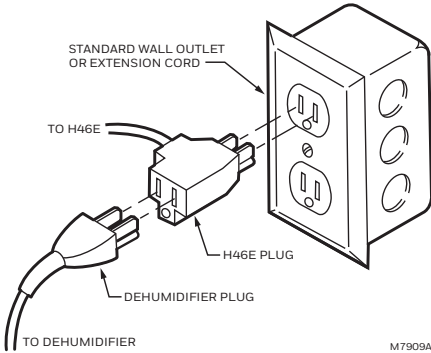

Fig. 3. Connecting H46E interrupter plug.
3. Insert the dehumidifier plug into the end of the interrupter plug. See Fig. 3.